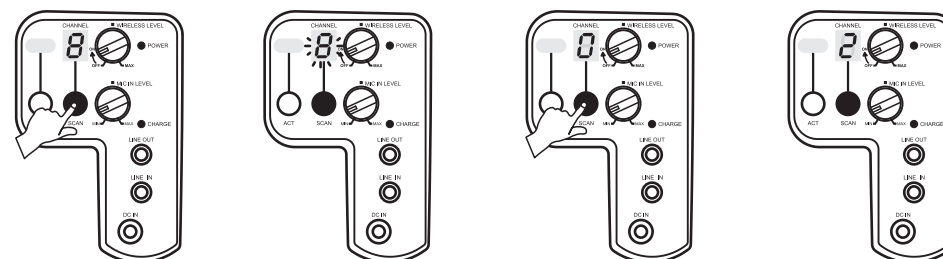

Fig. 3
- Manually Selecting a Channel:** Press and hold the Channel SCAN button ⑥ for 1 second. Channel indicator blinks and displays current channel. During channel blinking, press and hold Channel SCAN button to force the receiver to change to the next available programmed channel. Once blinking stops, the new channel is saved automatically, See Fig. 3.
- (1) Press & hold SCAN for 1 second
- (2) Current channel displays and blinks
- (3) Press & hold SCAN to force for a new channel
- (4) New channel is saved